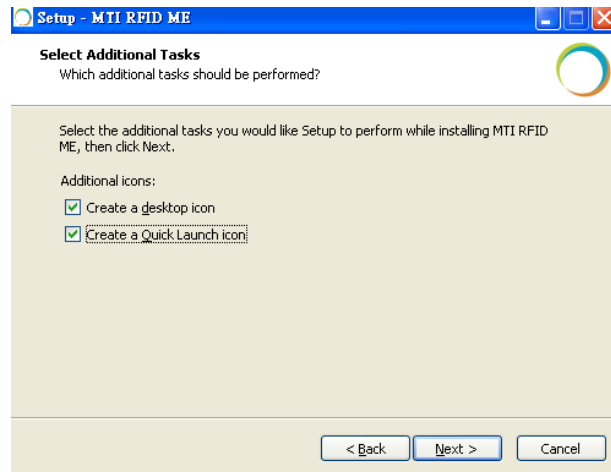

Figure 5
2.1.5. To add additional icons, “Check” desired boxes as shown in Figure 5.